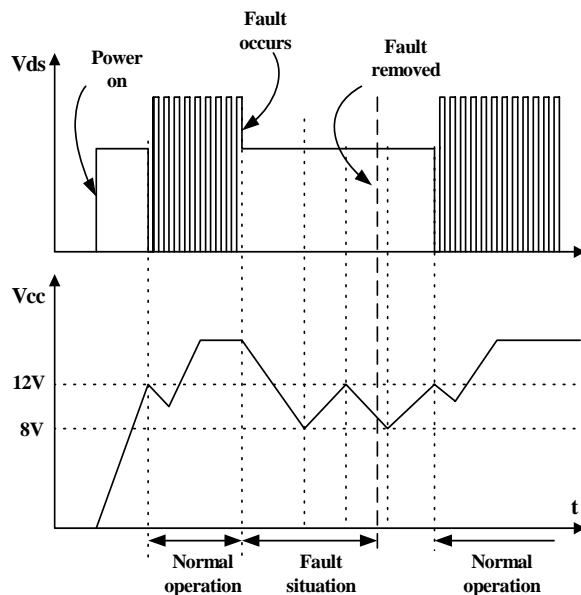

Figure 6. Auto restart operation
**3. Protection Circuit** : The FSDM0565RB has several self protective functions such as over load protection (OLP), over voltage protection (OVP) and thermal shutdown (TSD). Because these protection circuits are fully integrated into the IC without external components, the reliability can be improved without increasing cost. Once the fault condition occurs, switching is terminated and the Sense FET remains off. This causes Vcc to fall. When Vcc reaches the UVLO stop voltage, 8V, the protection is reset and the internal high voltage current source charges the Vcc capacitor via the Vstr pin. When Vcc reaches the UVLO start voltage, 12V, the FSDM0565RB resumes its normal operation. In this manner, the auto-restart can alternately enable and disable the switching of the power Sense FET until the fault condition is eliminated (see Figure 6).